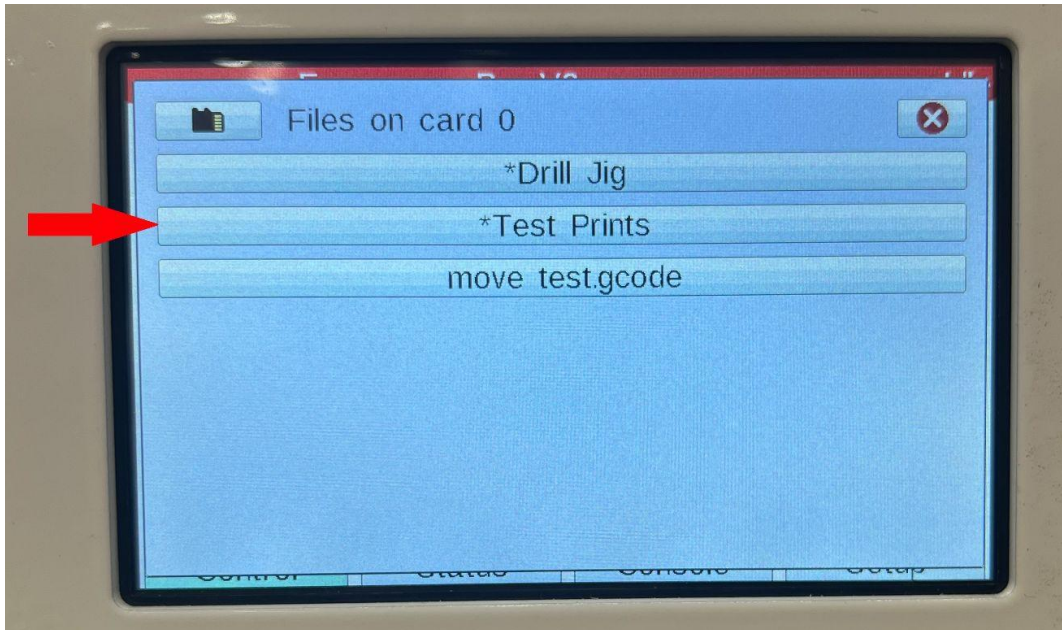

Figure 52: Test Print Files
2. Select **Test Prints** (Figure 52).